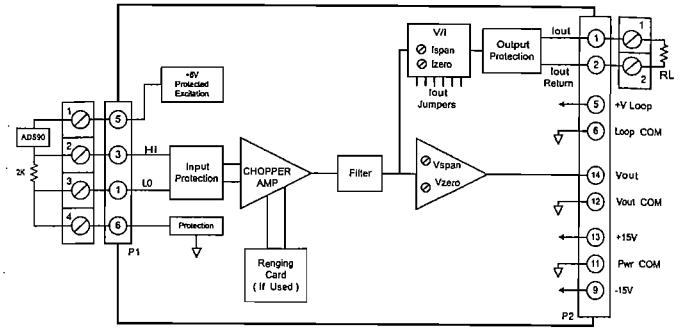

Figure 2.1.3.1 3B13 Functional Block Diagram
Figure 2.1.3.1 shows a functional diagram for model 3B13. A current sensing resistor, supplied with each module, is connected to screw terminals 2 and 3. Sensor excitation of up to  $+6\text{V}$  is provided by the modules. Input protection of up to  $130\text{V}$  for the input and excitation screw terminals is provided in each device. The signal is then amplified and filtered to give the high level voltage output. Chopper based amplification is used to assure low drift and excellent long term stability. Both the voltage and current outputs can be independently adjusted over a  $\pm 5\%$  span range for zero and span with the front panel accessible potentiometers. The current output, which has  $130\text{V}$  input protection, interfaces with user equipment through screw terminal connections.
1. Connect model 3B13 as shown in Figure 2.1.3.1 with  $R_L = 250\Omega$ .